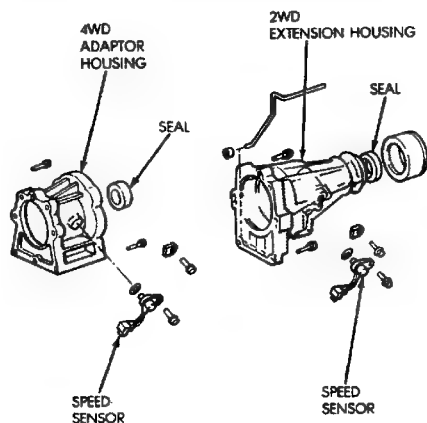

Fig. 39 Adaptor/Extension Housing Seals
- (2) On 2WD or 4WD models, disconnect or remove components necessary to gain access to the seal (e.g. propeller shaft, crossmember, shift linkage, transfer case, exhaust components, hoses, wires).
- (3) On 2WD models, remove seal from adaptor housing (Fig. 39).
- (4) On 4WD model, remove dust shield and remove seal from extension housing (Fig. 39).
- (5) Install new seal with appropriate size seal installer. On 4WD models, also install dust shield.
- (6) Reinstall components removed to gain access to seal.
- (7) Top off transmission fluid if necessary.